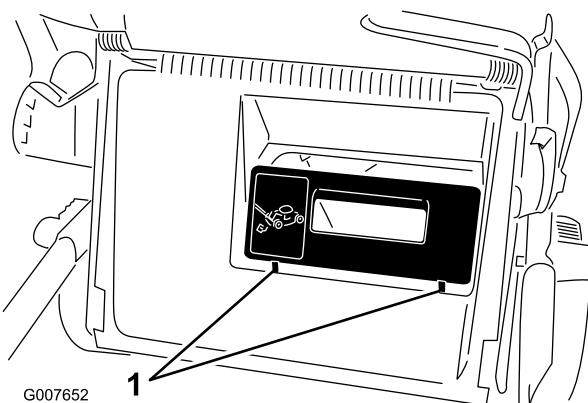
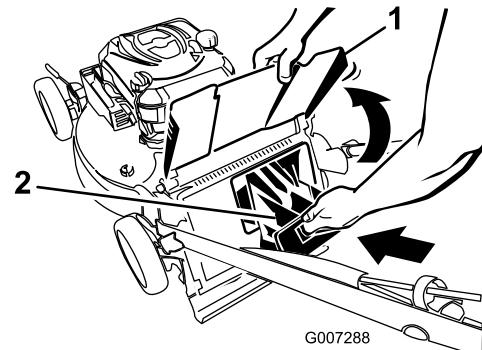

Figure 27
Figure 28
**Important:** Ensure that the rear discharge plug is securely in place. Lift up the discharge deflector and look for 2 tabs in front of the plug (Figure 27). If you do not see them, firmly push the plug in until it snaps into place (Figure 28).